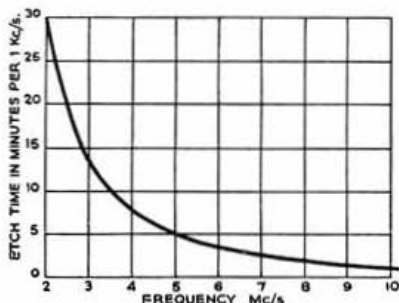

Fig. 3.
It is important, before commencing operations, to calculate the approximate time of immersion. A rough guide can be obtained from Fig. 3 which shows the etch time in minutes per 1 kc/s. shift for various fundamental crystal frequencies. The actual time, however, will vary with different qualities and cuts of quartz, and with the temperature of the solution. The graph is based on normal room temperature but the rate of etch can be increased by raising the temperature; the safe limit is about 120 degrees F. It is also possible to speed up the rate of etching by adding a few drops of either (but not both) sulphuric acid or hydrofluoric acid. The process will be slowed down by the use of a weaker solution of *ammonium bi fluoride* or by the recurrent use of the same solution.
(1) Some crystals have a tendency to "jump" a proportion of their etch frequency; although fortunately this is generally confined to the section between optimum and maximum etch points. If frequency checks show a rate of etch far in excess of Fig. 3 it will be necessary to proceed warily, and to increase the number of checks.